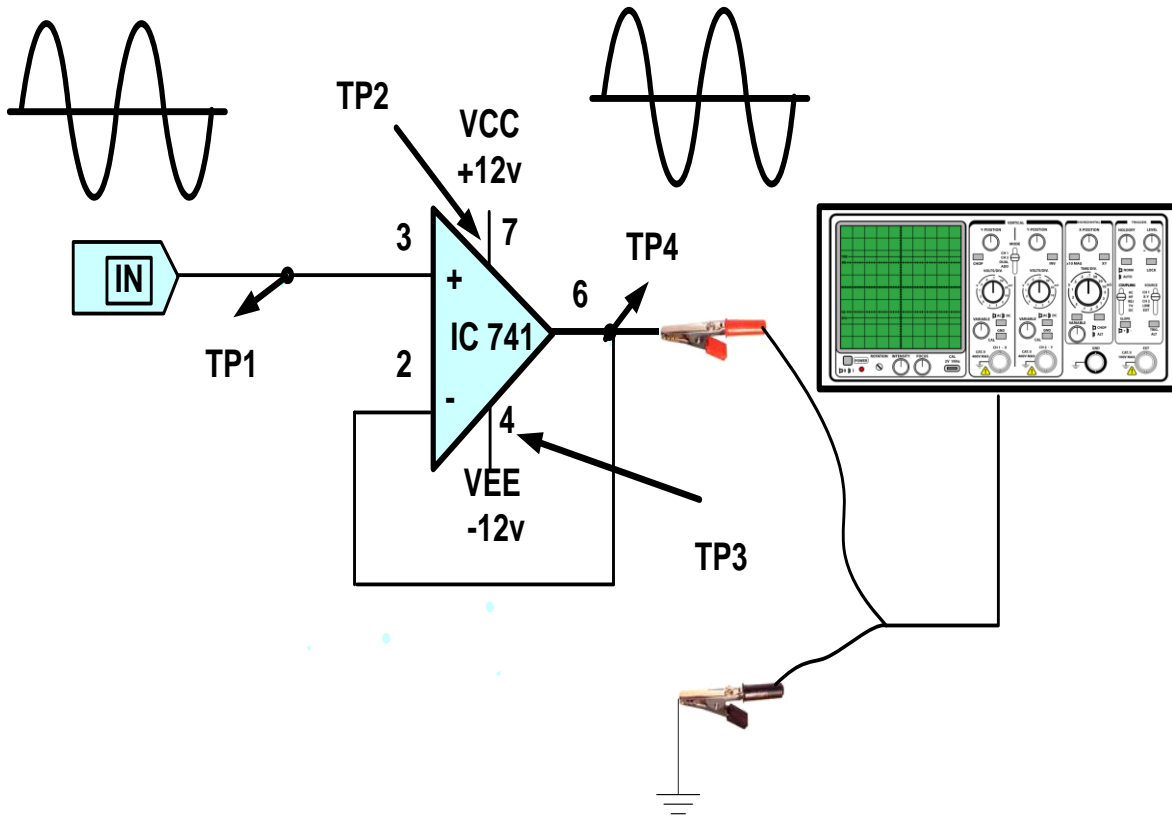

Figure 5.2
1. Assemble the circuit as shown in Figure 5.2.